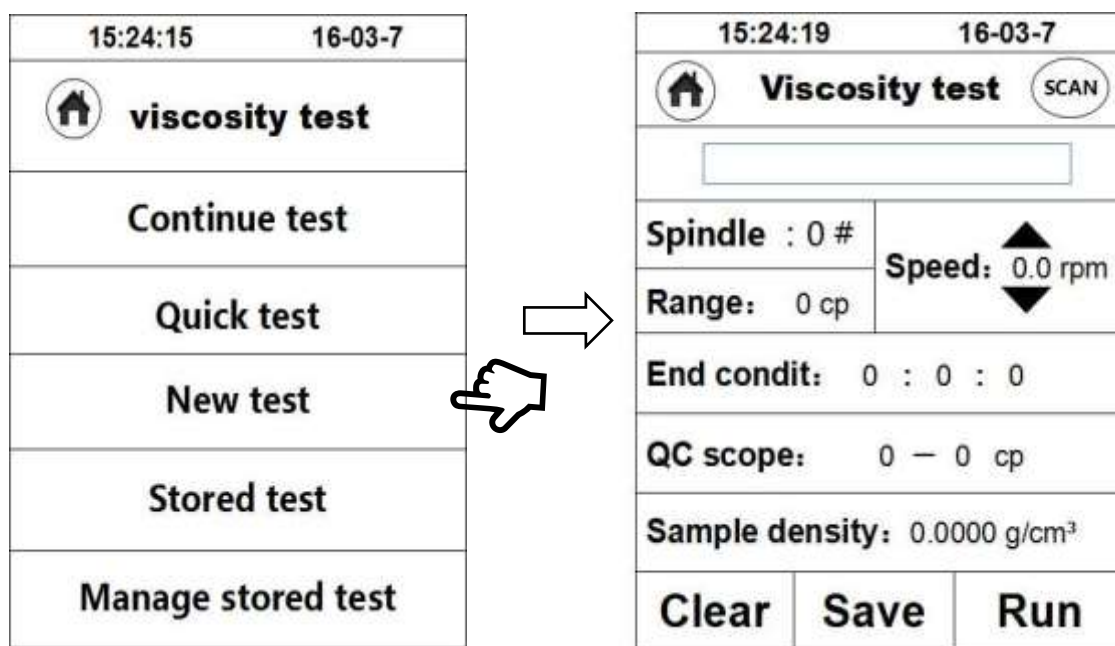

Fig. 19
1.2 Click one of the options of **“Continue test”**, **“Quick test”** and **“New test”** according to the test demand, for example, click **“New test”** to enter the interface for parameter setting (Fig. 19).